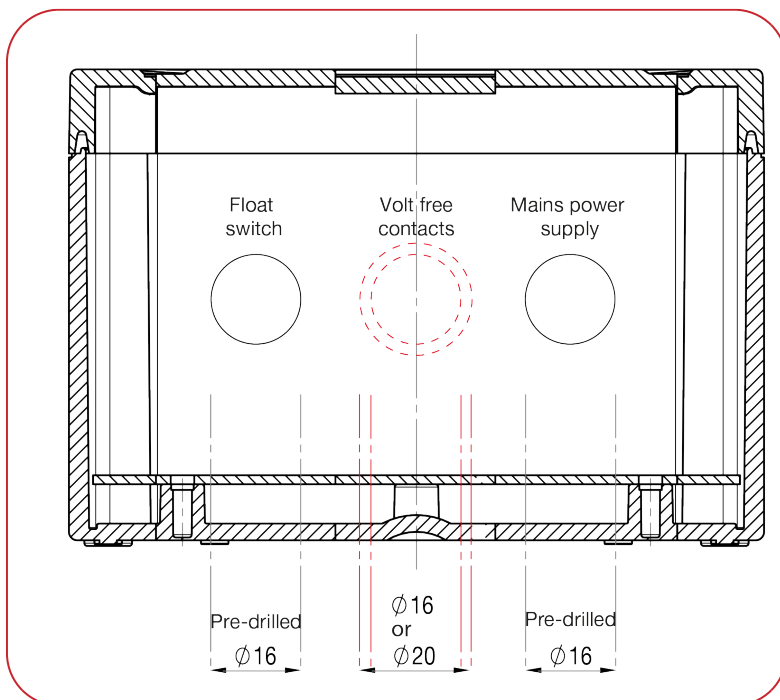

Fig.1 Drilling the mounting panel
- For the volt free contacts, you will need to drill the appropriate diameter hole **as shown in fig.1** to add the M16 or M20 cable gland. The cable gland required would depend on the diameter of signaling cable used.
1. Loosen the float switch cable gland located on the underside of the AquaSafe Alarm panel, **as shown in fig.1.**